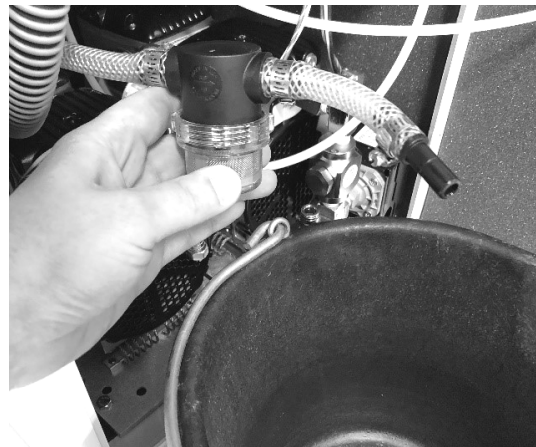

Fig. 4
5. Rotate the tubing toward the outside of the unit. With a basin located below the filter assembly, unscrew the bowl that houses the filter. Let the waste drain from the suction canister completely. (Fig 4)